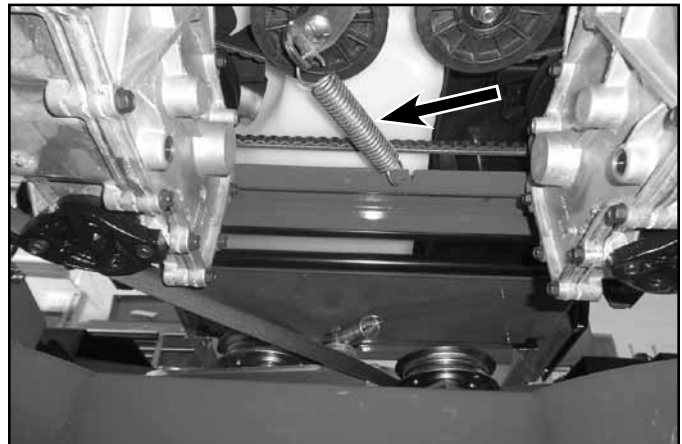

Fig. 055
15. Install the drive belt tensioner spring as oriented below (Fig. 055).